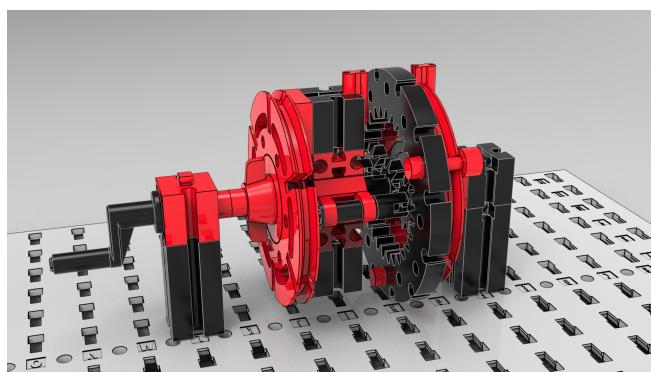

Fig. 3: Planetary gear with fixed planet carrier (carrier) and sun gear drive
First, examine and design the following planetary gear with a fixed bridge and the sun gear on the drive shaft (Fig. 3):
1. In the planetary gear in Fig. 3, the bridge is fixed. Design another planetary gear in which either the sun gear or the ring gear is fixed.
1. In the planetary gear system shown in Fig. 3, the bridge is fixed. Design another planetary gear system in which either the sun gear or the ring gear is fixed.